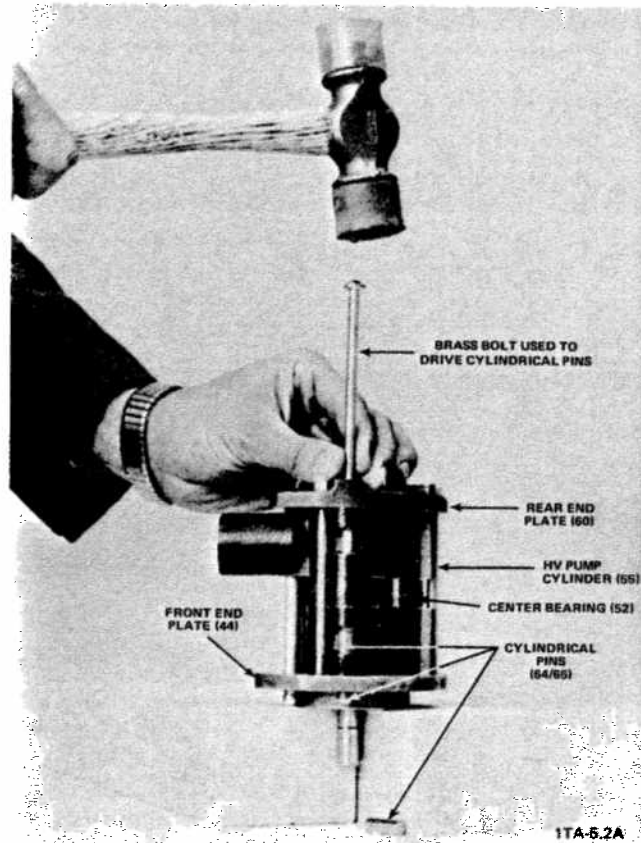

Figure 5-5. Removing the Cylindrical Pins From the Module (D2A Pump Model Shown)
Using a hammer and a drift pin (or long bolt), remove the cylindrical pins as follows (see Figure 5-5).
until the long pin (65) forces the other short pin (the one that aligns the front end plate (44) and the second stage pump cylinder) to fall out, and then the long pin also falls out of the front-end-plate alignment hole (see Figure 5-5).